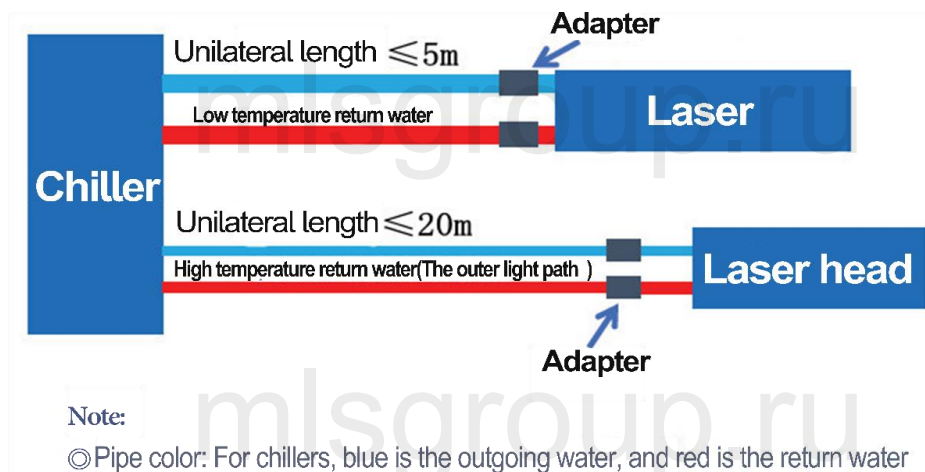

Figure 6 Connection diagram between chiller and laser
- When connecting the chiller to the laser, follow the method in Figure 6, and the inner diameter of the pipe must not be smaller than the diameter of the inlet and outlet of the chiller. If the inner diameter of the piping is smaller than the requirements, the consent of the chiller manufacturer must be obtained.